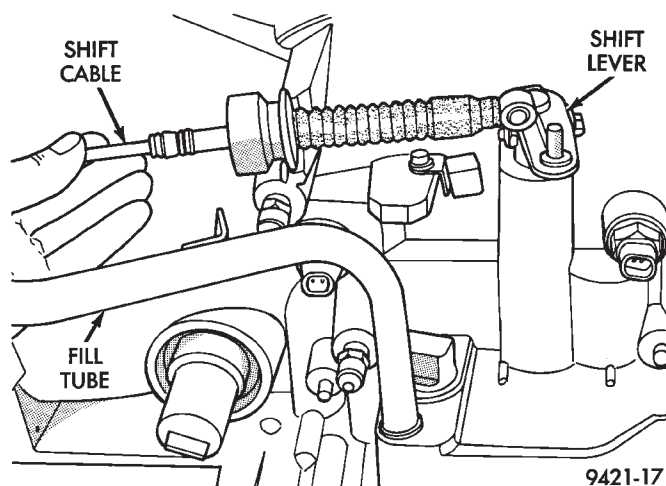

Fig. 21 Cable Removal
- (10) Loosen shift cable clamp on transaxle.
- (11) Disconnect shifter cable from shift lever assembly at transaxle (Fig. 21).
- (12) Remove cable from underneath vehicle.